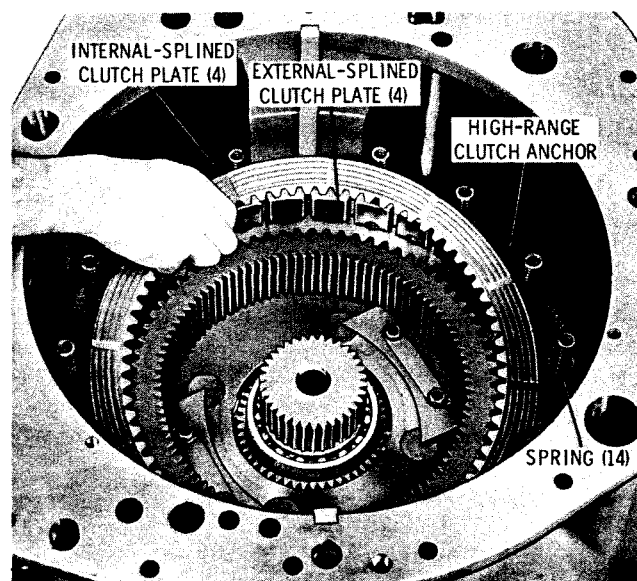

Fig. 7-17. Installing high-range clutch plates
(16) Install the high-range clutch anchor, broad flat side upward (fig. 7-17). Install fourteen clutch piston return springs.
(17) Beginning with an internal-splined clutch plate, and alternating with external-splined plates, install four of each type of plate (fig. 7-17). Note that an external-tanged plate is the last to be installed.